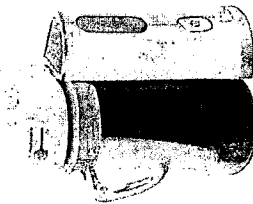

Figure 2
4. Rotate the shower head position so that it is over the brew basket. Close the top lid (Figure 2).